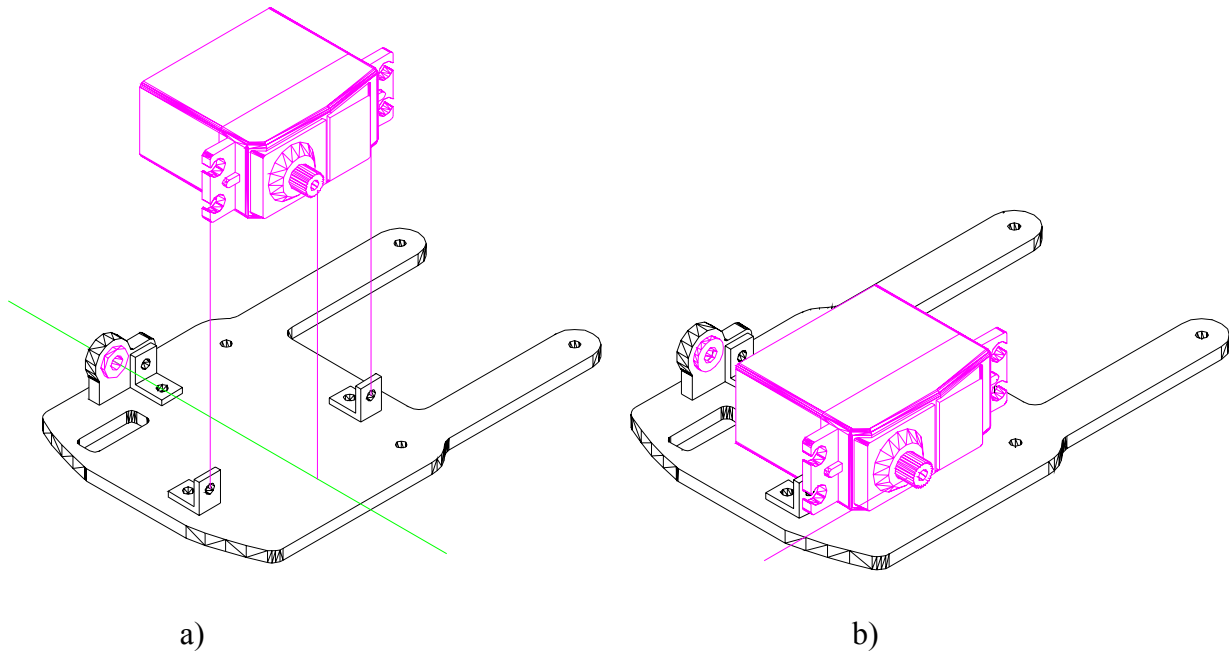

Figure 9 The shoulder servo fastens to the two angle brackets on the manipulator base plate a), resulting in the completed subassembly b).
4. Mount the shoulder servo onto the base as shown in Figure 9. Use two ¼ inch 4-40 machine screws to fasten the servo to the two angle brackets. Tighten the base plate screws into the angle brackets as well as the servo mounting screws. Make sure the angle brackets are square as you tighten the screws.